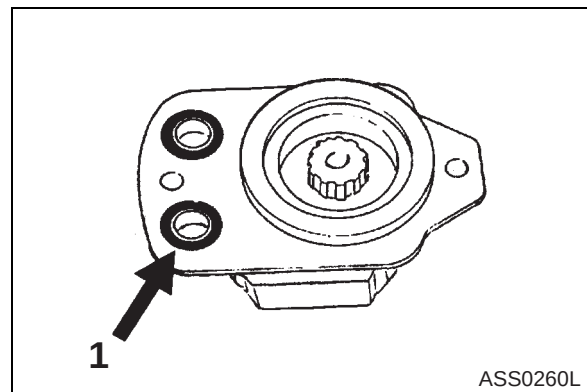

Figure 27
1. O-ring (1, Figure 27).
2. Sealing surface of housing (2, Figure 27).